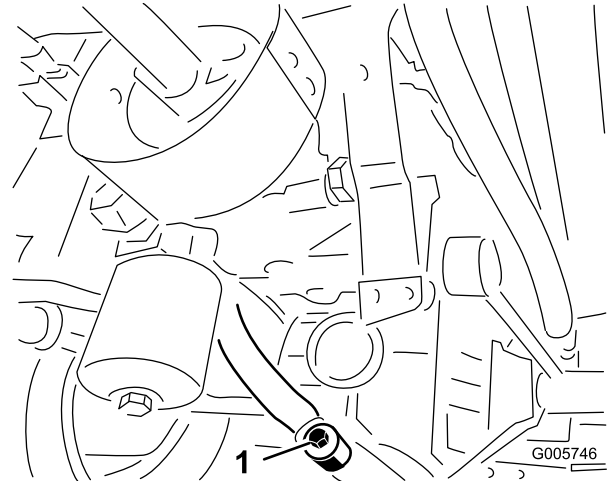
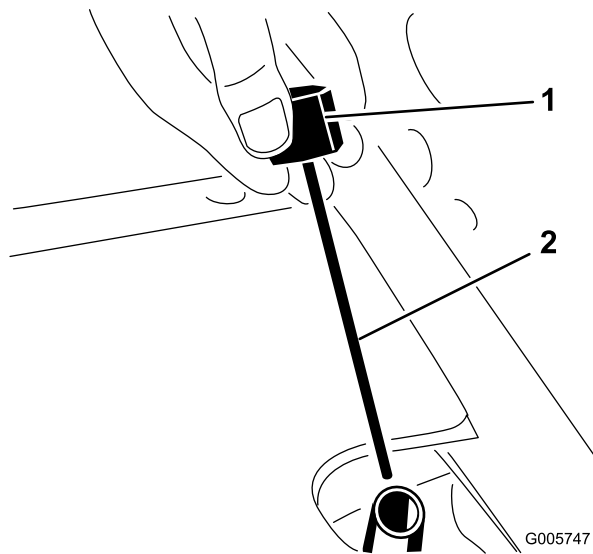

Figure 75
Figure 76
4. Remove drain plug from fitting between axle housing and oil filter and allow fluid to flow into drain pan (Figure 75).
6. Install drain plug in fitting between axle housing and filter (Figure 75).
7. Remove dipstick from axle filler tube (Figure 76) and fill axle to proper level with correct type of hydraulic fluid; refer to table above.
9. Leave machine set for two additional minutes, then remove dipstick and check fluid level in axle (Figure 76). If level is low, add fluid until level matches groove in dipstick (Figure 76). If level is too high, remove drain plug (Figure 75) and drain fluid until level matches groove in dipstick.